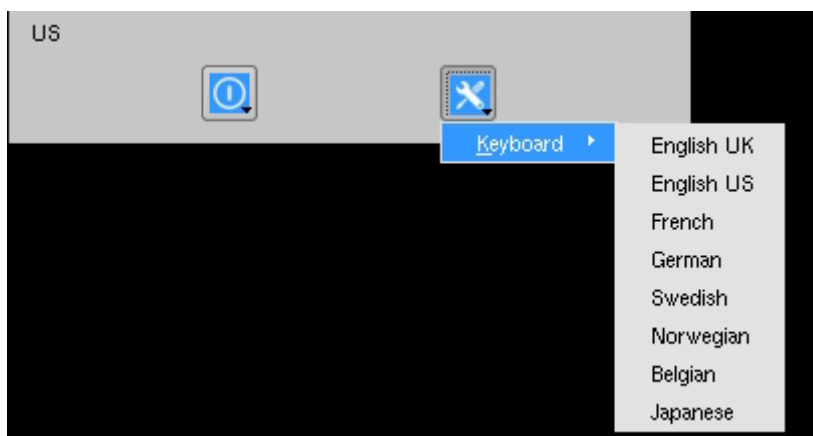

FIGURE 8-3. SETTING SYSTEMS KEYBOARD TYPE
- ◆ System Preferences: This button has a drop down menu that allows the user to define system preferences for the Emerald® receiver. Figure 8-3 shows how the keyboard type can be selected.